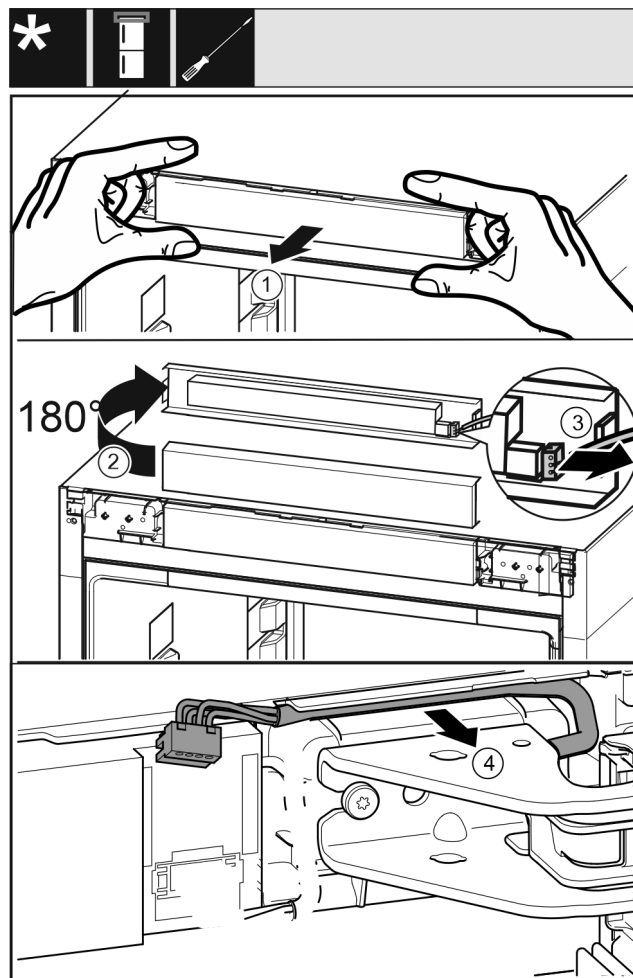

Fig. 18
- Carefully release the control panel trim Fig. 18 (1) forwards.
- Turn the control panel trim Fig. 18 (2) upwards by 180°.
- Push the locking tab Fig. 18 (3) backwards and remove the plug carefully.
- Release the cable over the swap bearing block Fig. 18 (4) from the guide carefully.